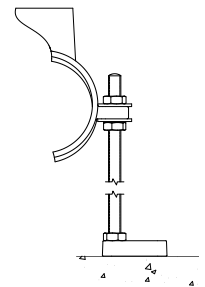

Fig. 6
- Secure the anchor stabilizer to the fitting using the anchor foot assembly instructions and hardware provided. Ensure the anchor foot sits level on the floor and nuts are tightened. See Fig. 6